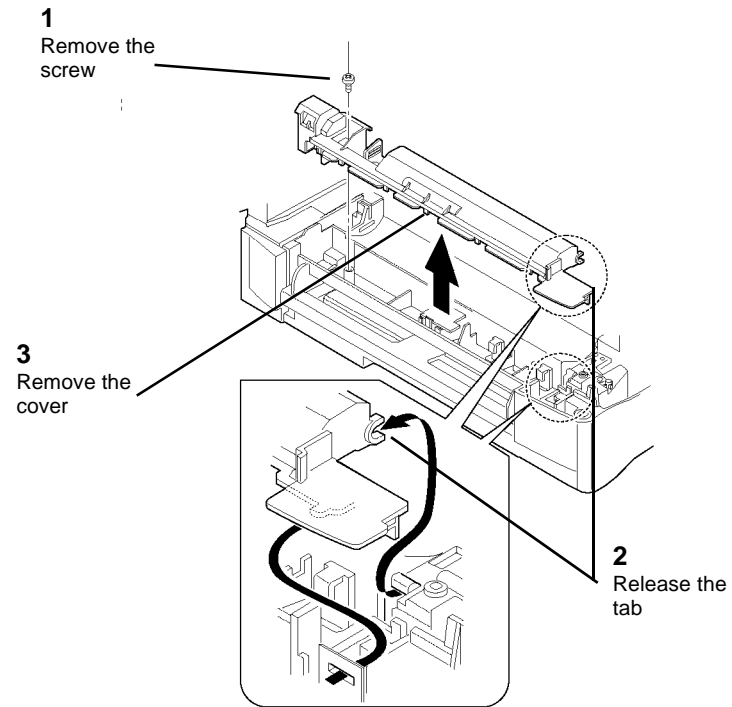

Figure 1 Removing the Upper Cover
2. (Figure 1): Remove the Upper Cover.